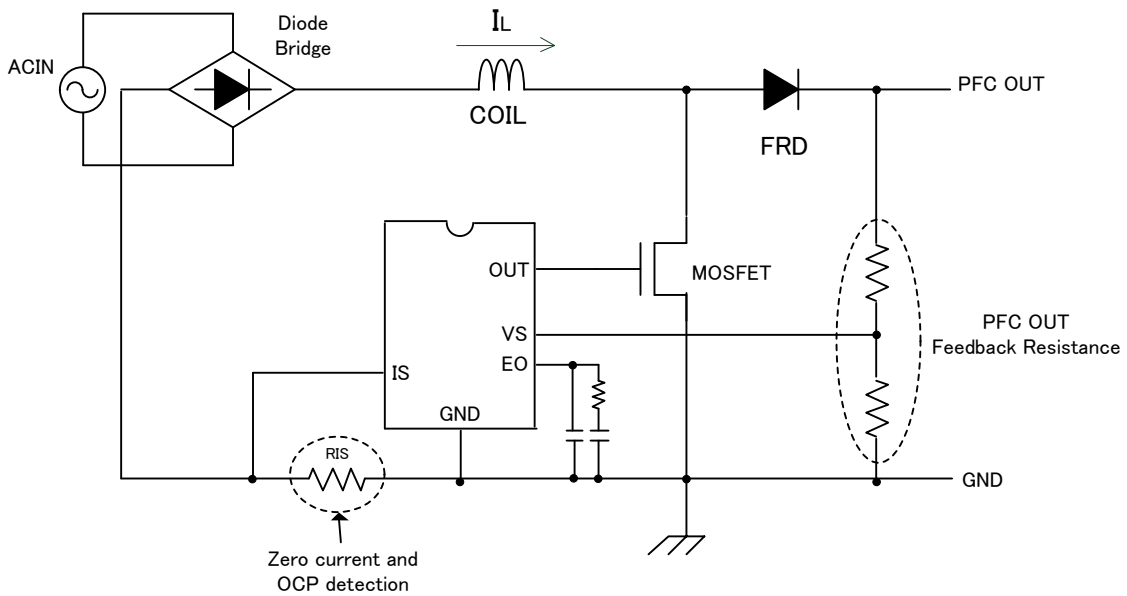
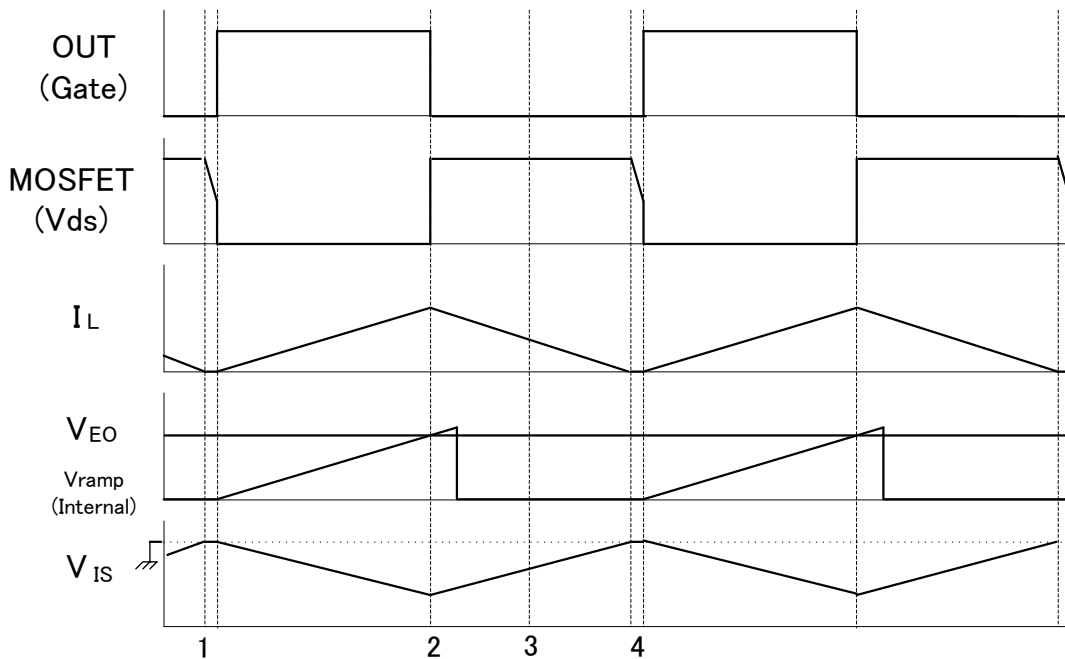
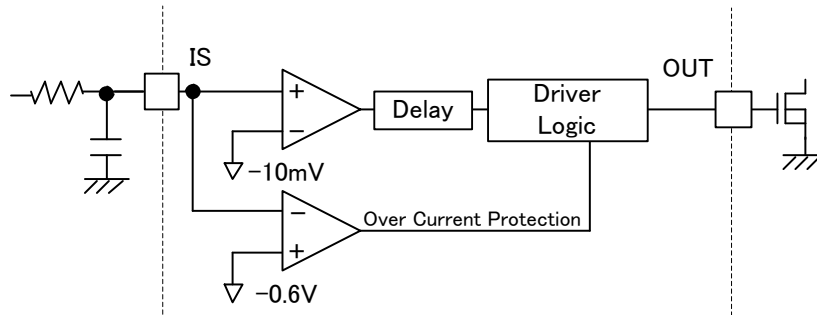
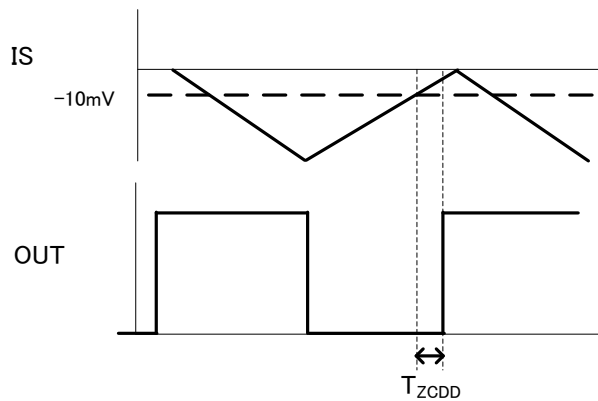

Figure 4. Operation circuit outline
Figure 5. Switching operation timing chart
Figure 11. IS pin current detection circuit
Figure 12. IS zero current detection delay time
The outline operation circuit diagram is shown in Figure 4. The switching operation is shown in Figure 5.
(5) IS pin Zero current detection and overcurrent detection function
The zero current detection circuit is a function to detect a zero cross of the inductor current (IL) (cf. Figure 11). When the voltage of the IS pin becomes higher than the zero current detection voltage, the OUT output becomes High after progress at zero current detection delay time(TZCDD.). Please set the RIS value (cf. Figure.4) so that IS pin voltage becomes less than V_{IS_OCP} (-0.6V typ.). In addition, it recommends that it adds CR filter for switching noise reduction. It shows operation in Figure 12.